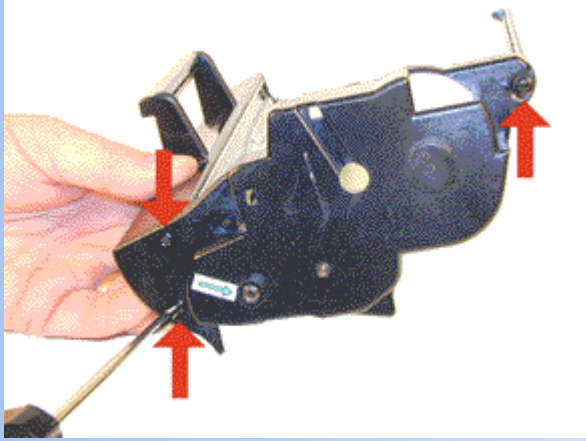

FIGURE 7
5. Remove the two front screws only from the right end cap. The back screw holds the long brace in place and does not need to be removed. See Figure 7